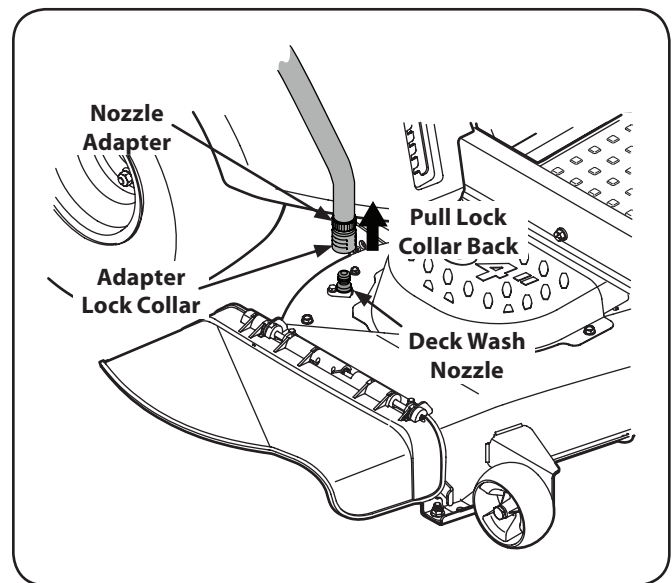

Figure 6-1
- Pull back the lock collar of the nozzle adapter and push the adapter onto one of the deck wash nozzles at either end of the mower deck. Release the lock collar to lock the adapter on the nozzle. See Figure 6-1.